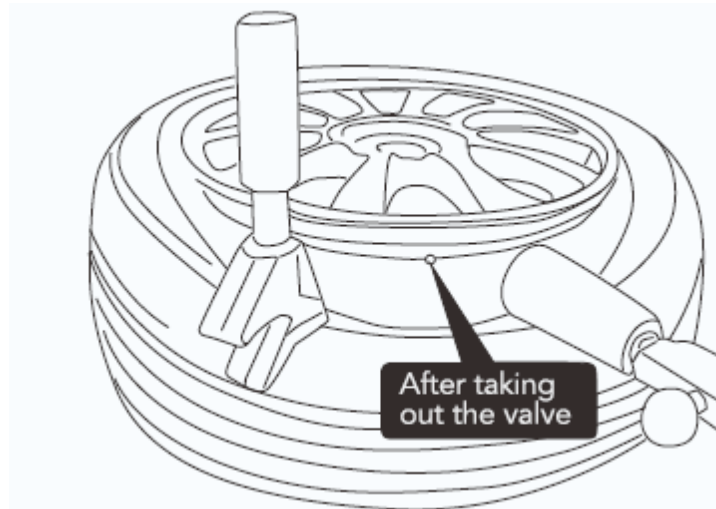

Fig. 4.13
2. Open the rubber tire by machine (fig. 4.13).